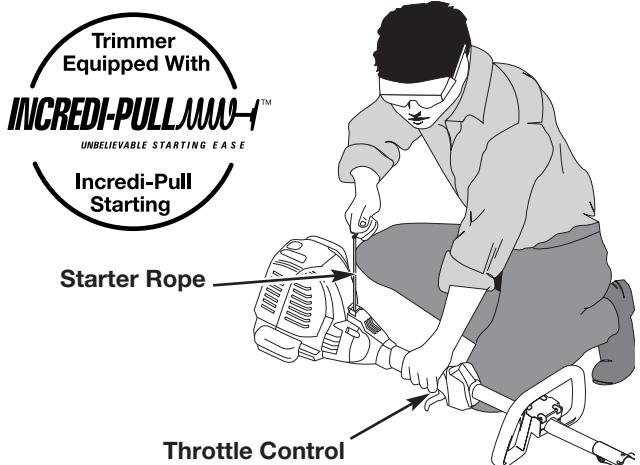

Fig. 8
**WARNING:** Avoid accidental starting. Make sure you are in the starting position when pulling the starter rope (Fig. 8). To avoid serious injury, the operator and unit must be in a stable position while starting.
- 4. With the unit in the starting position (Fig. 8), **do not squeeze the throttle control**. Pull the starter rope out a short distance, until you feel some resistance. This is usually around 2-4 inches. Pull the starter rope out with a **controlled and steady motion**. Repeat this 5 times. The engine should start.